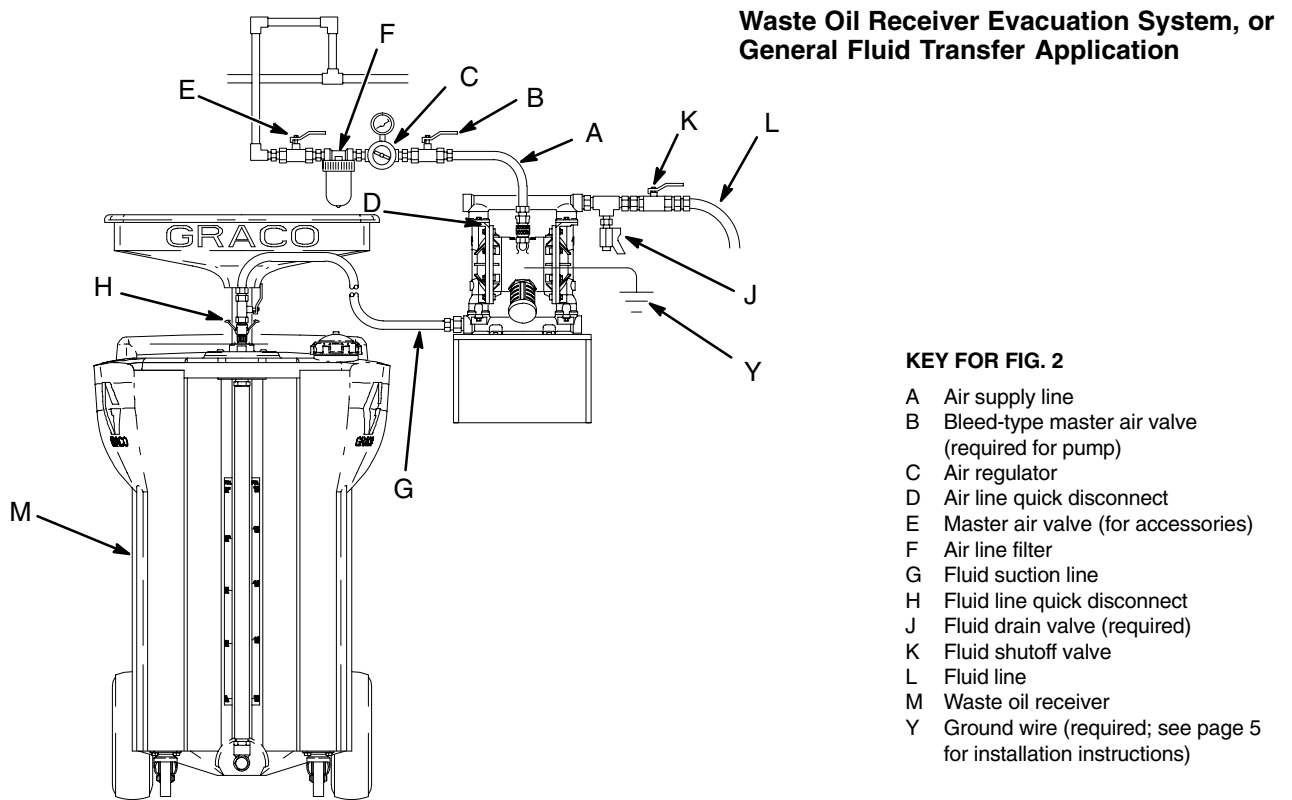
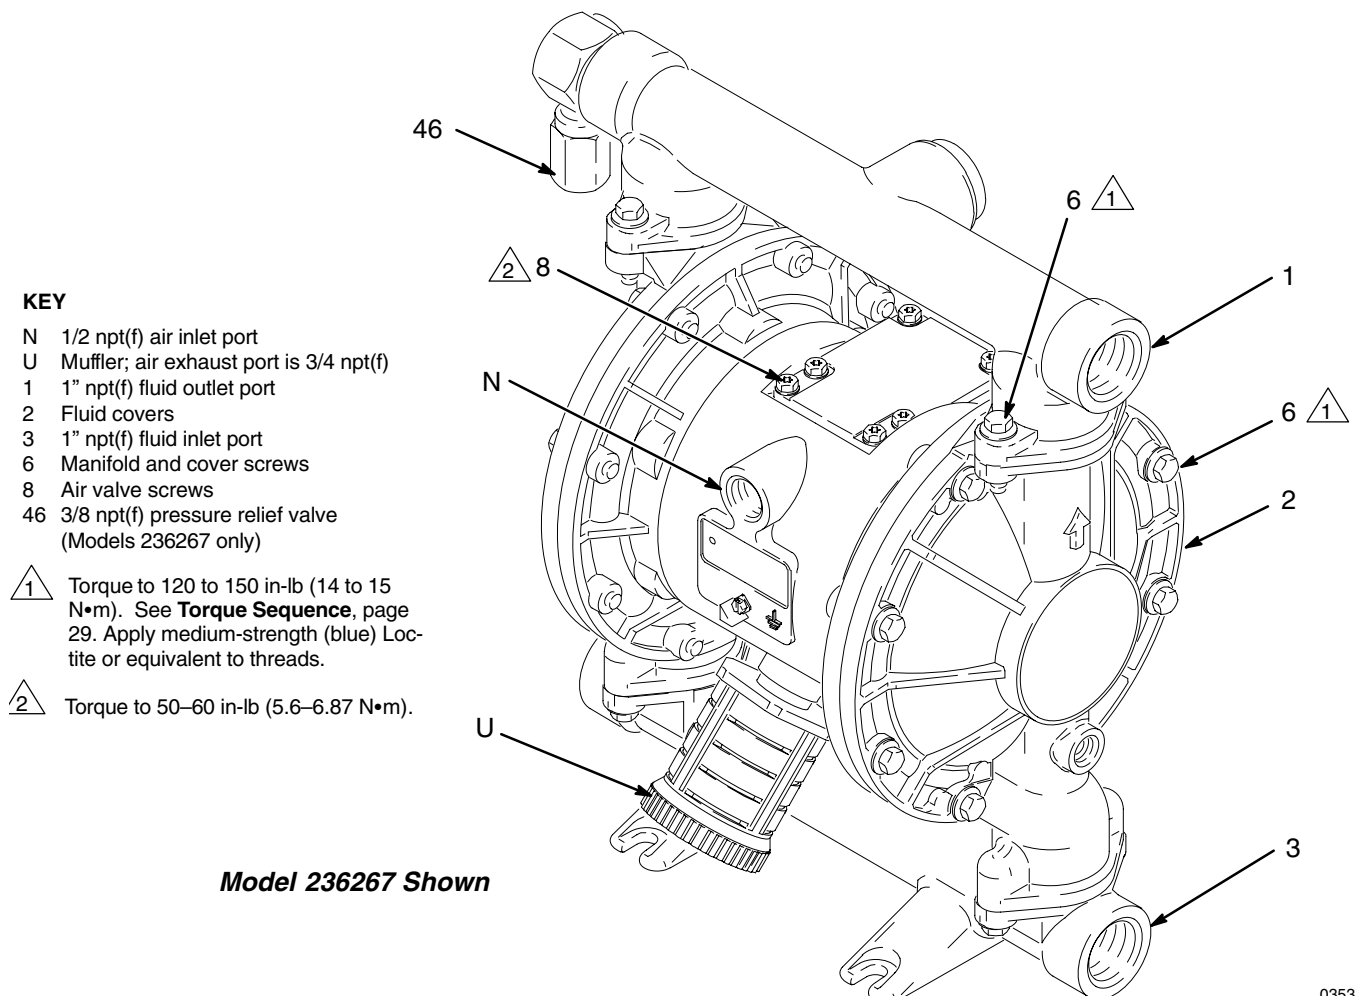

Fig. 2
Fig. 5
- The Typical Installations shown in Figs. 2 to 4 are only guides for selecting and installing system components. Contact your Graco distributor or Graco Technical Assistance (see back page) for assistance in planning a system to suit your needs.
1. Install the air line accessories as shown in Figs. 2 to 4 on pages 7 and 8. Mount these accessories on the wall or on a bracket. Be sure the air line supplying the accessories is grounded.
- a. Install an air regulator (C) and gauge to control the fluid pressure. The fluid outlet pressure at stall will be the same as the setting of the air regulator.
- b. Locate one bleed-type master air valve (B) close to the pump and use it to relieve trapped air. See the **WARNING** above. Locate the other master air valve (E) upstream from all air line accessories and use it to isolate them during cleaning and repair.
- c. The air line filter (F) removes harmful dirt and moisture from the compressed air supply.
2. Install a grounded, flexible air hose (A) between the accessories and the 1/2 npt(f) pump air inlet (N). See Fig. 5. Use a minimum 1/2" (13 mm) ID air hose. Screw an air line quick disconnect coupler (D) onto the end of the air hose (A), and screw the mating fitting into the pump air inlet snugly. Do not connect the coupler (D) to the fitting until you are ready to operate the pump.
If desired, you can easily change the orientation of the fluid inlet and outlet ports. See Fig. 5.
The pump fluid inlet (3) is 1" npt(f). See Fig. 5.
5. For the Waste Oil Receiver Evacuation System, connect an appropriate suction hose (G) and fluid quick coupler (H) between the pump fluid inlet and the waste oil receiver (M). See Fig. 2.
1. **Use only electrically conductive fluid hoses (L).** The pump fluid outlet (1) is 1" npt(f). See Fig. 5. Screw the fluid fitting into the pump outlet securely.
2. Install a fluid drain valve (J) near the fluid outlet. See the **WARNING** above, and Figs. 2 to 4 on pages 7 and 8.
3. Install a shutoff valve (K) in the fluid outlet line.